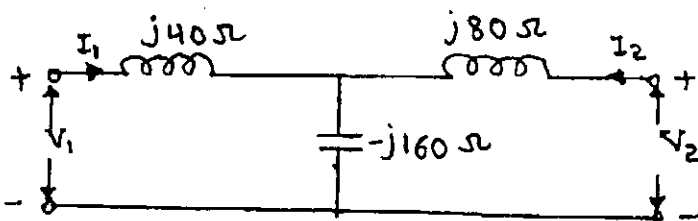

Fig. 6
- 6 a) Find the open circuit parameter of the two port network shown in Fig. 6. (7 + 7)